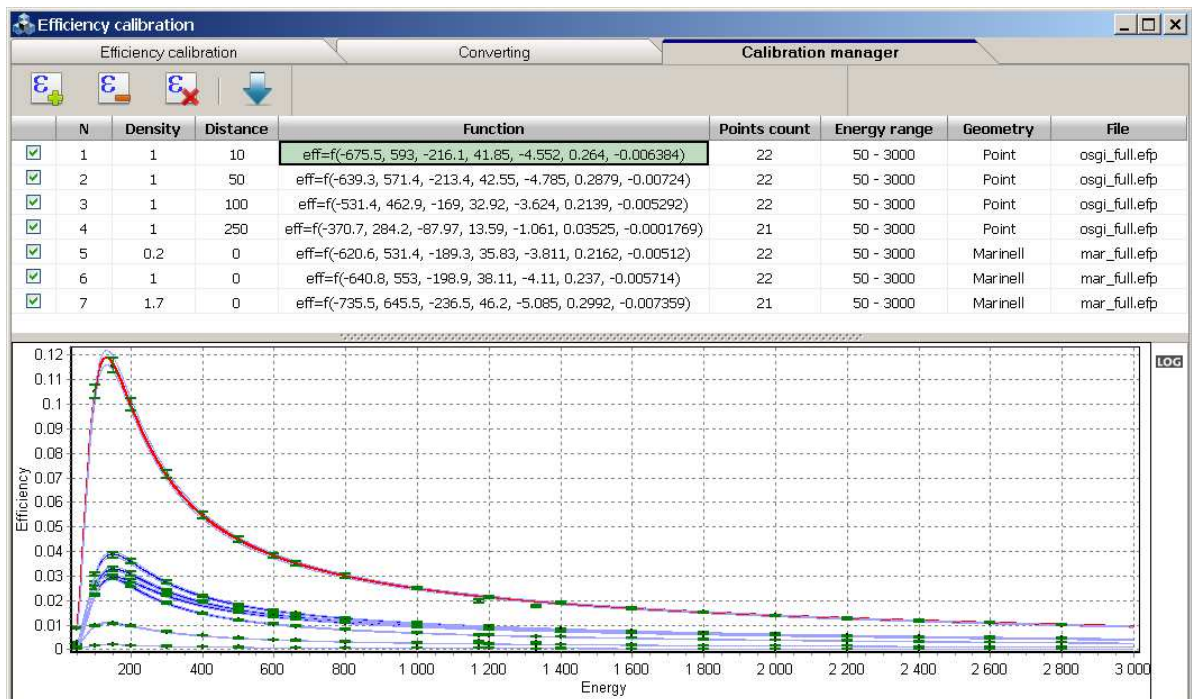

Figure 50.2. Tab Calibration manager
9.4.14 In order to merge all the efficiency files into a file, choose tab **Calibration manager** (see Fig. 50.2) and load the files created by steps 9.4.1 - 9.4.13 by means of button . The data from the files loaded will be shown in a table, whereas the efficiency curves will be shown in a plot under the table.